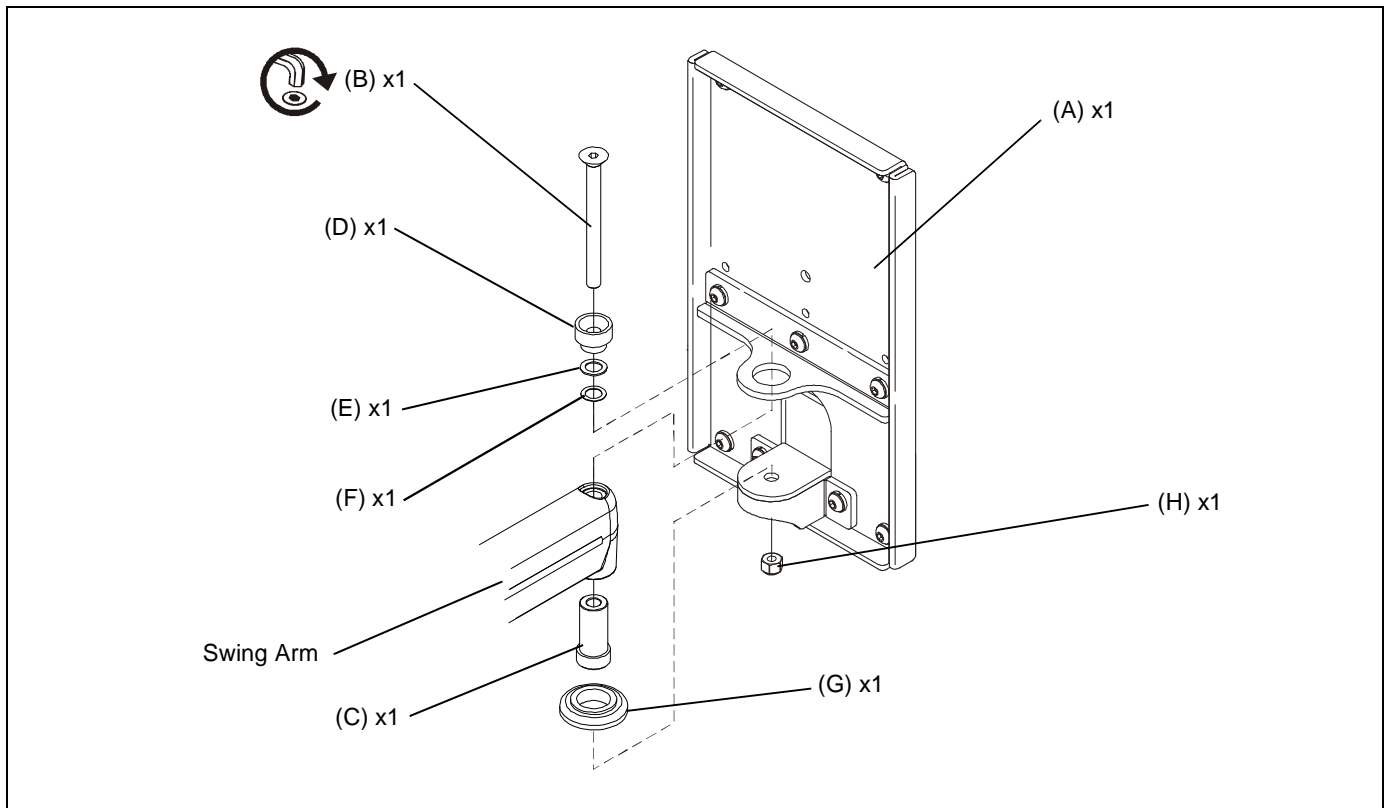

Figure 3
1. Orient swing arm so that it is positioned in front of mounting tabs on wall plate (A). (See Figure 3)
2. Slide inner stud (C) up into bottom of swing arm. (See Figure 3)
3. Place spacer (G) up against bottom of swing arm and hold spacer (G) and inner stud (C) in place. (See Figure 3)
4. Slide swingarm with inner stud (C) and spacer (G) between mounting tabs in wall plate (A). (See Figure 3)
5. Slide stepped spacer(D), spacer (E) and washer (F) onto flat head cap screw (B). (See Figure 3)
6. Slide flat head cap screw (B) with spacers (E) and washer (F) down into swing arm and through inner stud (C) and lower spacer (G). (See Figure 3)
7. Secure swing arm to mount using Nylock nut (H). (See Figure 3)